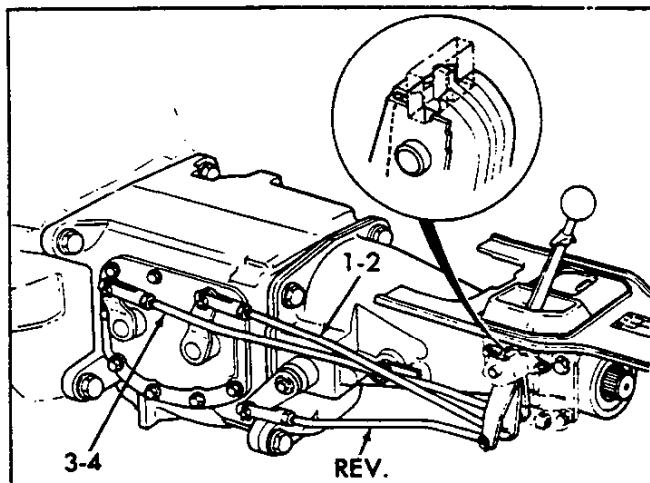
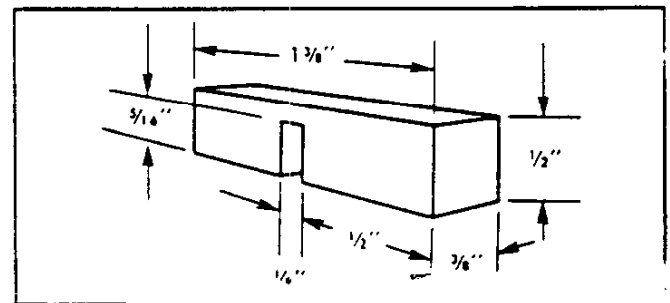

Fig. 18—Four-Speed Transmission Gearshift Linkage
Fig. 19—Linkage Gauge block
The 4-speed transmission gear shift linkage (fig. 18), utilizes three shift rods and levers. A simple gauge block, shown in Figure 19, will aid in making the proper adjustments. The adjustments can be made without the gauge block by having an assistant hold the manual shift lever in the neutral positions.
2. Place transmission in neutral and install gauge block in position shown in Figure 18.